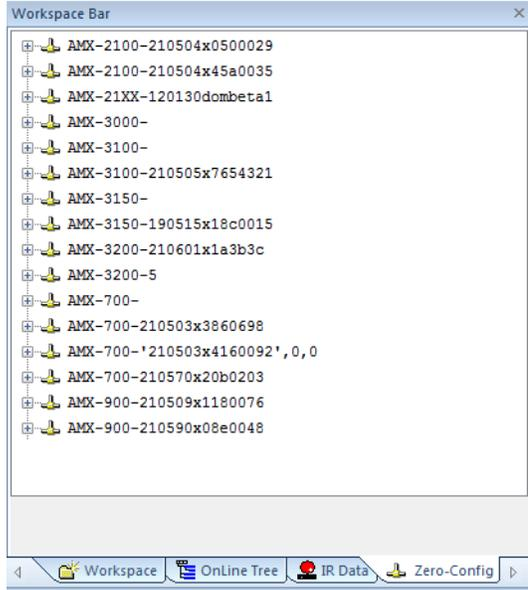

FIG. 2 Workspace bar (Zero-Config tab selected)
- In the Workspace area, right-click and select **Refresh Zero Config List**. The controller appears in the list of devices as shown in FIG. 2: